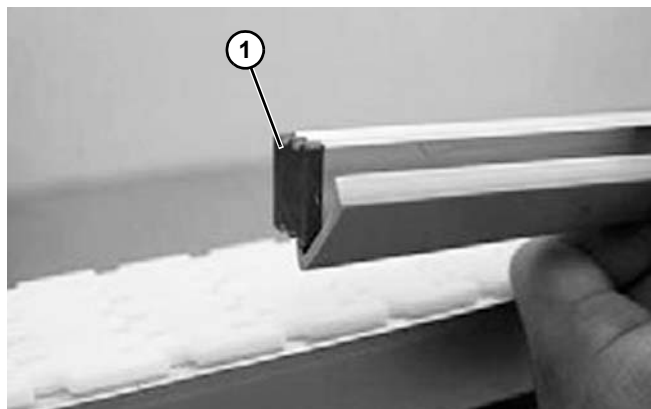

Figure 110
1. To prevent products from being scratched, a plastic guide rail cover (**Figure 110, item 1**) can be snapped on to the inside of the guide rail.